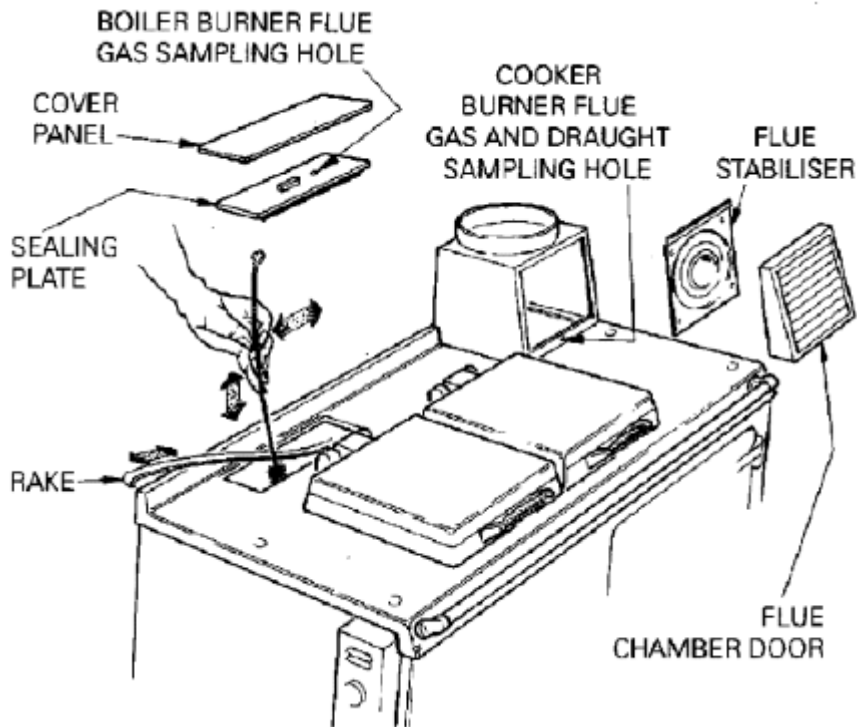

Fig.23 DESN511021 A
- (iv) Lift top plate enamelled cover panel (behind the L.H. insulating cover) and remove. Remove sealing plate - See Fig.23.